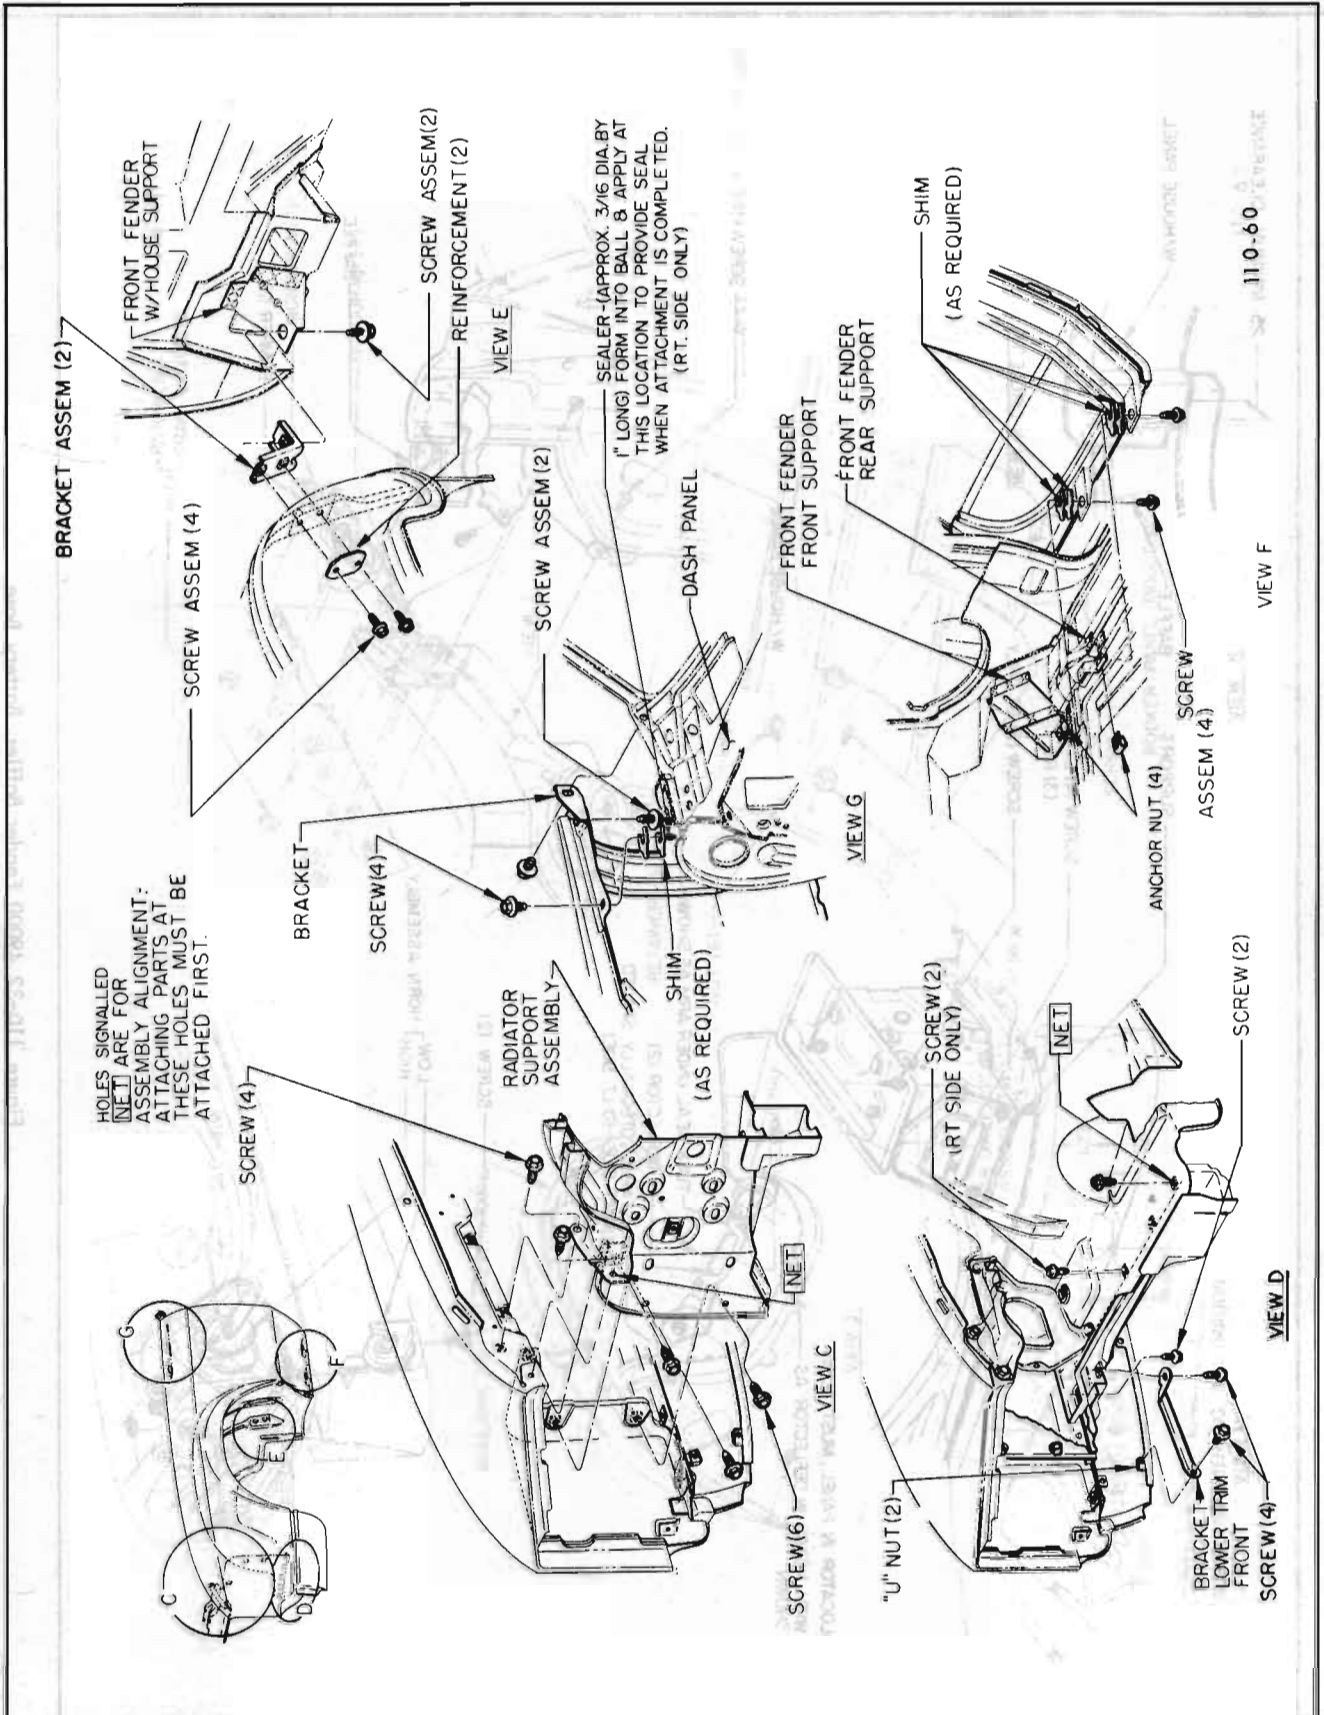

Figure 110-31 49000 Fender to Cowl Attachment Points
5. Remove one bolt securing bracket to front bumper outer extension. See Figures 110-31 (View D) and 110-32.
10. Remove five bolts securing front of fender to radiator support. See Figure 110-31 (View C).
13. Remove two bolts securing skirt to lower portion of cowl. See Figure 110-31 (View E).
15. Remove two bolts securing lower rear edge of fender to rocker panel. See Figure 110-31 (View F).
16. Remove one bolt securing upper rear portion of fender to bracket at hinge pillar. It is suggested that bracket not be removed from pillar. See Figure 110-31 (View G).
18. Remove two bolts securing fender to upper tie bar. See Figure 110-31 (View C).